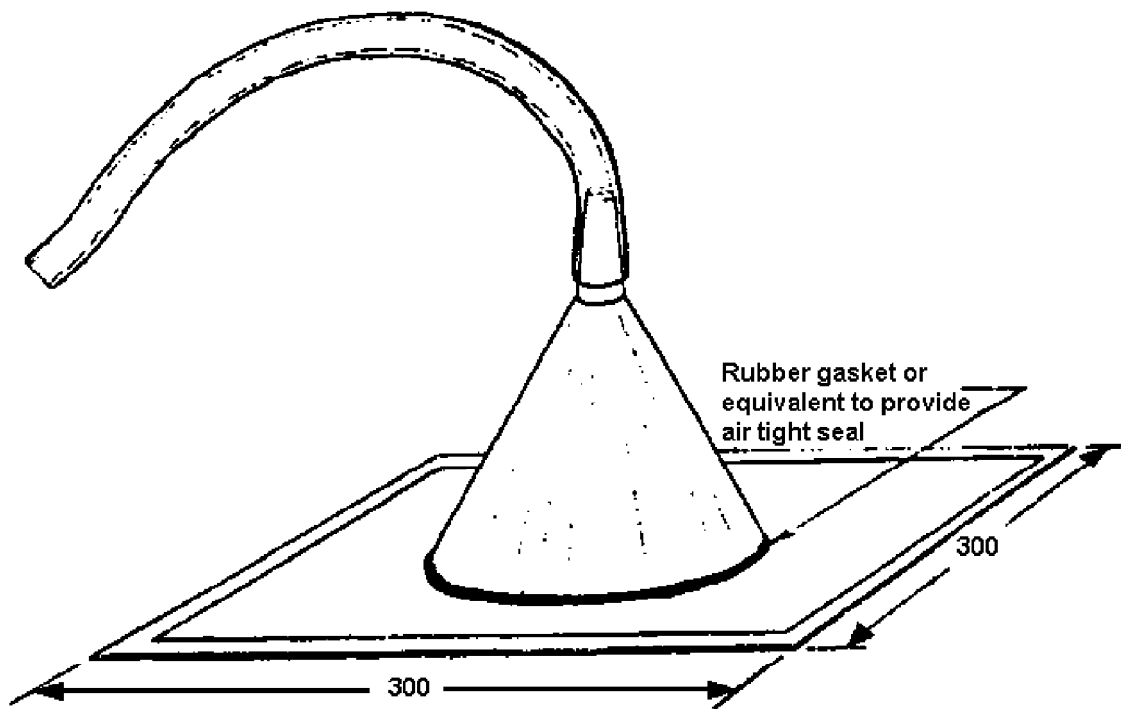

Figure 1
1. Place the vacuum funnel on the centre of the test panel or on the test vehicles roof as illustrated in Figures 1 and 2.